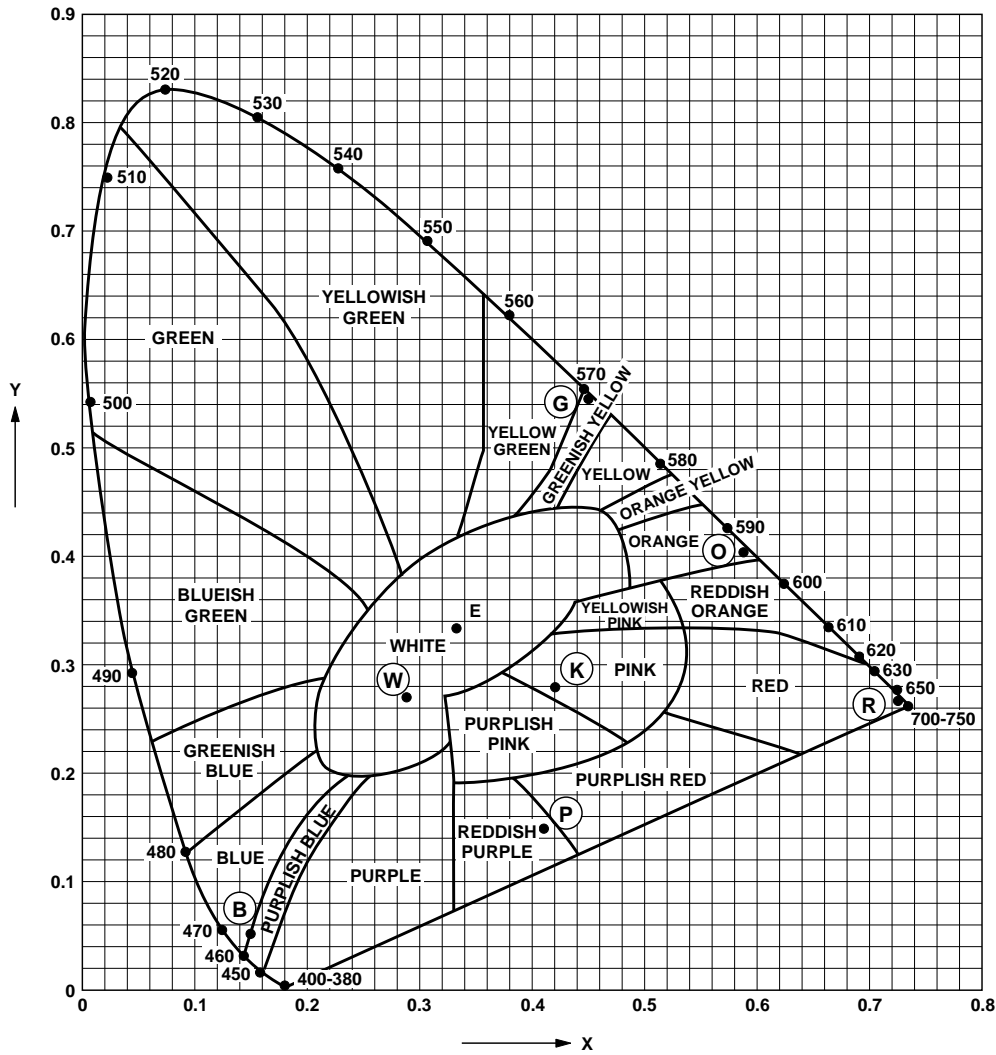

Figure 10. CIE 1931 Chromaticity Diagram.
- Color coordinates are based on the CIE 1931 Chromaticity Coordinates. See Figure 10.